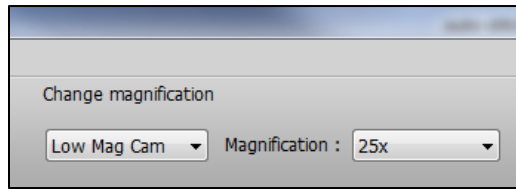

Figure 2 - Change Magnification Toolbar
- 1.4. Under the *Change Magnification* section located in the upper toolbar (Figure 2):